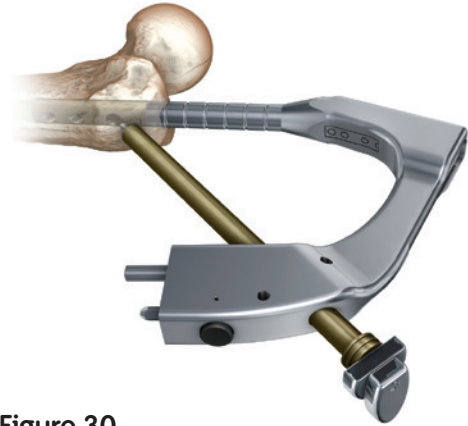

Figure 30
2. Make a small incision at the site of screw entry and insert the trocar/sleeve assembly through the hole on the drill guide and down to the bone (Figure 30).